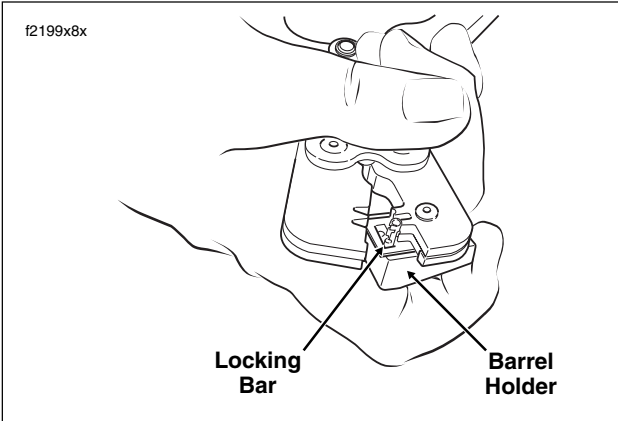

Figure B-32. Position Contact in Crimper
7. Release locking bar to lock position of contact. When correctly positioned, the locking bar fits snugly in the space at the front of the core crimp tails and the closed side of the terminal rests on the outer nest of the crimp tool. See Figure B-32.